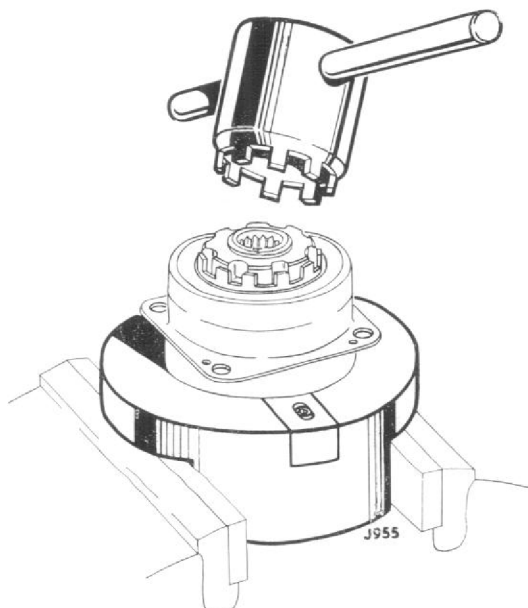

Fig. 5. Vice block T.74753 and spanner T.74755, for removing ring nut from lower driving gear assembly.
2. Position the assembly in vice block T.74753, open up the cup locking washer and, using spanner T.74755, remove the ring nut, Fig. 5; remove the cup locking washer and plain washer.